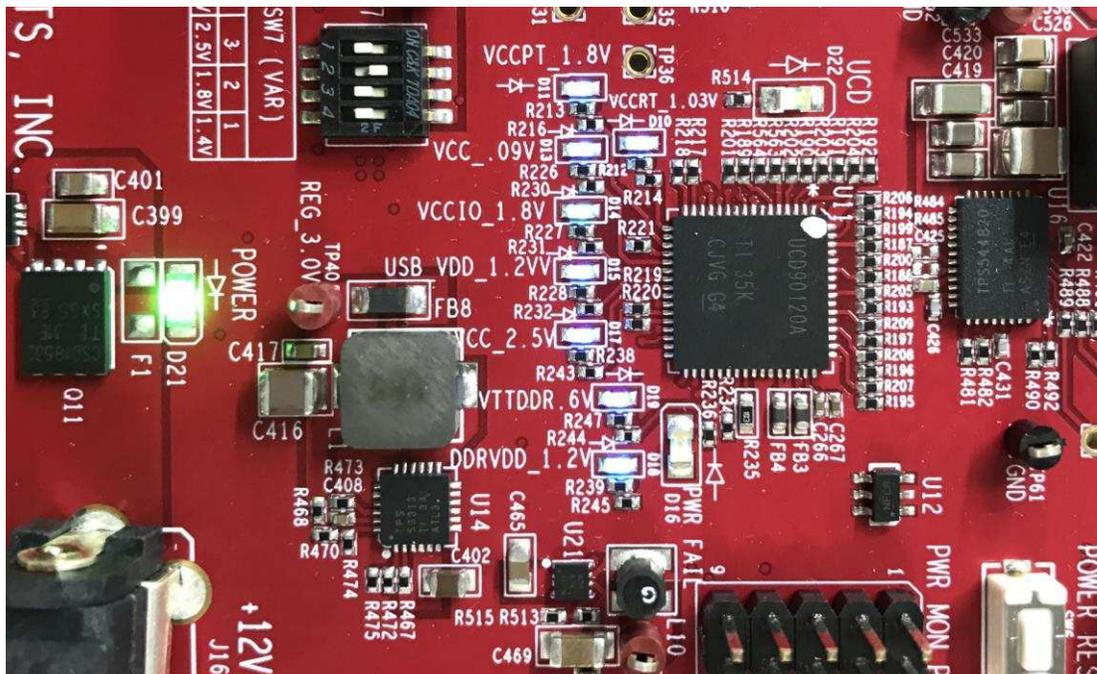

Figure 3. Power Indicator LEDs
- Set SW3 to ON. LEDs D10, D11, D13-D15 and D17-D19 should all turn blue now, as seen in Figure 3.